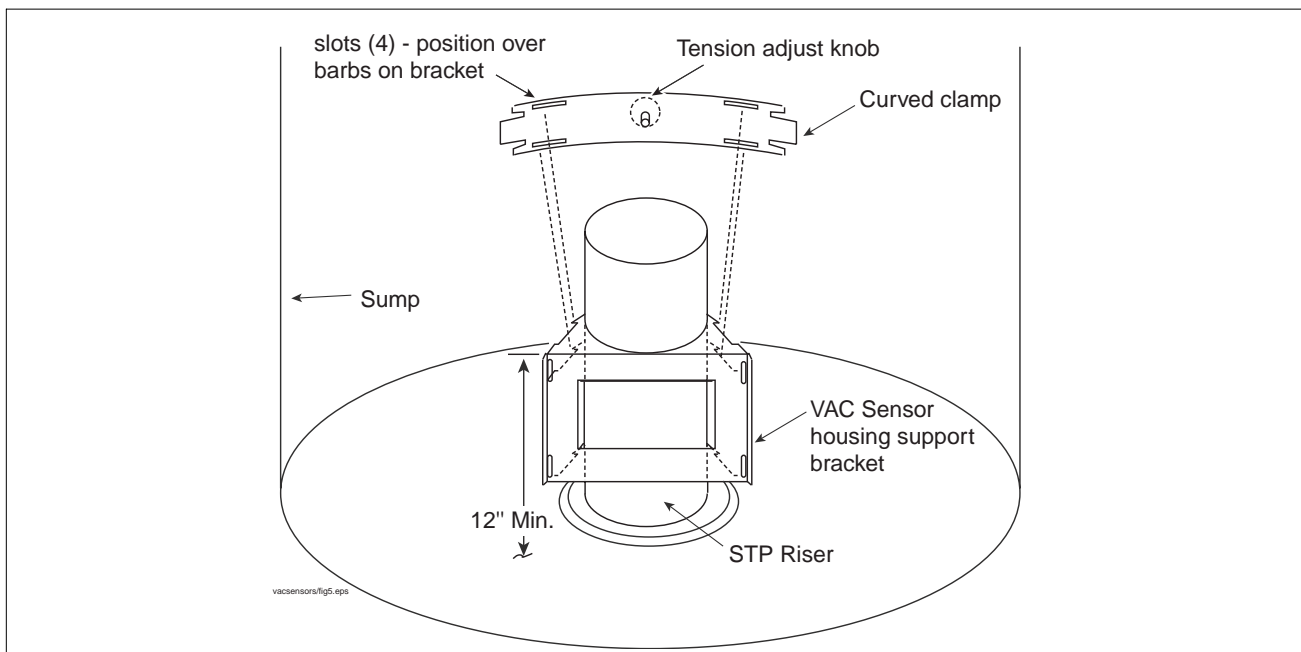

Figure 7. Attaching Vac Sensor housing support bracket
- Looking at the front of the Vac Sensor housing, insert the elbow in the side vacuum port bushing labeled 'STP Siphon' (on the Vac Sensor cover) in the Vac Sensor closest to the side of the housing. Orient the elbow so that the open half is horizontal and pointing to the other Vac Sensors (see Figure 7). Insert a tee in the same vacuum port in each of the other Vac Sensors. Orient the tees in the horizontal position, except the Vac Sensor closest to the other side of the Vac Sensor housing. Remove this tee and orient it so that one end points toward the other tees and one end points out at you then insert the inlet end into the bushing. Measure and cut a piece of the tubing approximately 1-3/4" long to connect each of the tees and elbow as shown in
Figure 7. Once the tubing pieces are cut, remove the barbed elbows and tees to push on the tubing pieces, then reinsert this connected assembly back into the Vac Sensor bushings and tighten the nuts.
Get the Vac Sensor housing support bracket and the curved tensioning clamp from the mounting kit. Hold the bracket against the STP riser. Place the curved clamp around the back of the riser and hook the four notches in the clamp over the four barbs in the top of the bracket (see Figure 7). Position the bracket so the top of bracket is at least 12 inches above the sump floor and hand tighten the tension adjust knob on the back of the clamp until the assembly is secure.